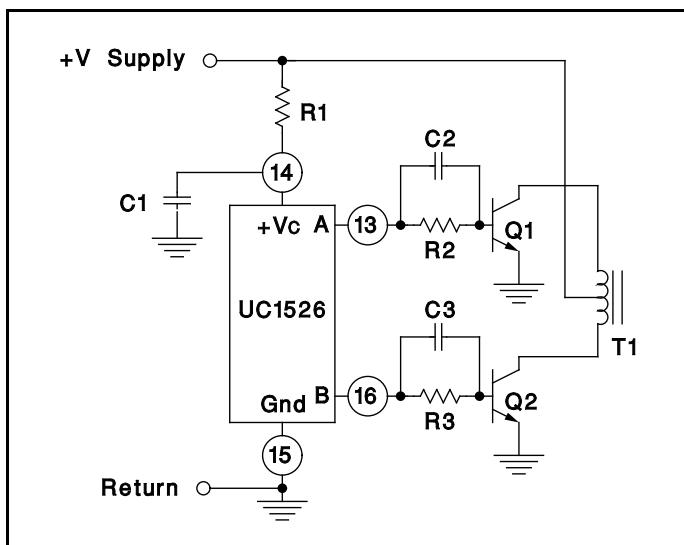

Figure 7. Push-Pull Configuration
1. With RD = 0 (pin 11 shorted to ground) select values for RT and CT from Figure 7 to give the desired oscillator period. Remember that the frequency at each driver output is half the oscillator frequency, and the frequency at the +VC terminal is the same as the oscillator frequency.